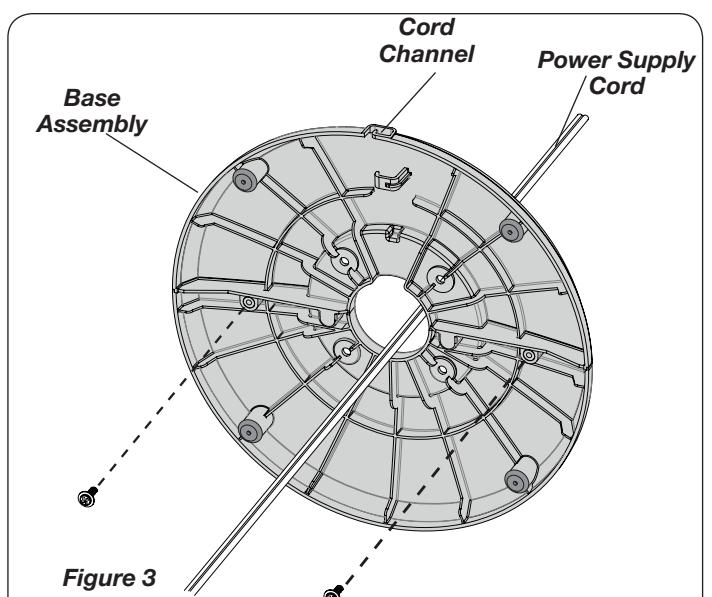

Figure 3
2. Secure the Base halves with (2) M4 X 13mm Screws. Thread the **Power Supply Cord** through the large hole in the **Base Assembly**. **NOTE:** The **Cord Channel** on the bottom of the Base should be towards the back of the Heater. (Figure 3)
### AUTOMATIC TEMPERATURE CONTROL Figure 3